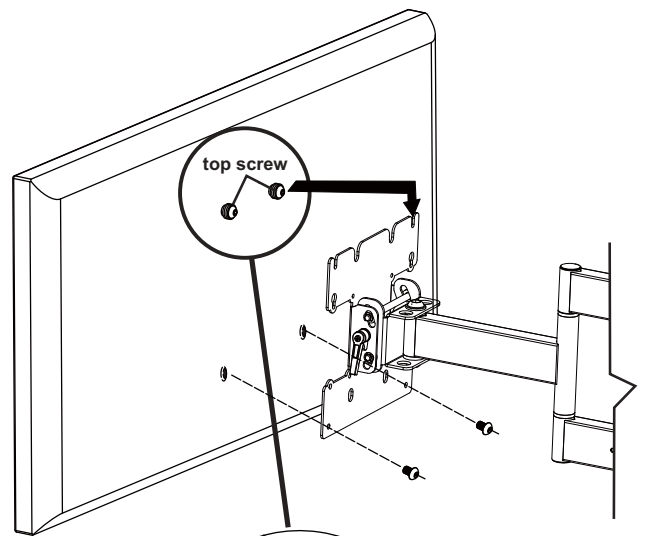

fig.C.2.2
Once in position, attach the bottom two for a 200x200 pattern bolts(C) to secure the display to the mounting plate as shown in **fig.C.2.2**